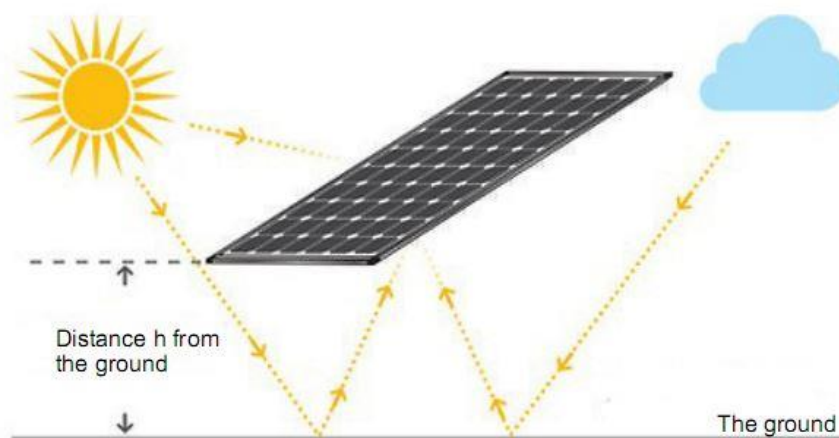

Fig. 7-2 Distance from the earth
- Due to the different ground clearance height will affect the power generation gain, it is recommended to install the module at a height from 0.5m to 2m. See Fig. 7-2.